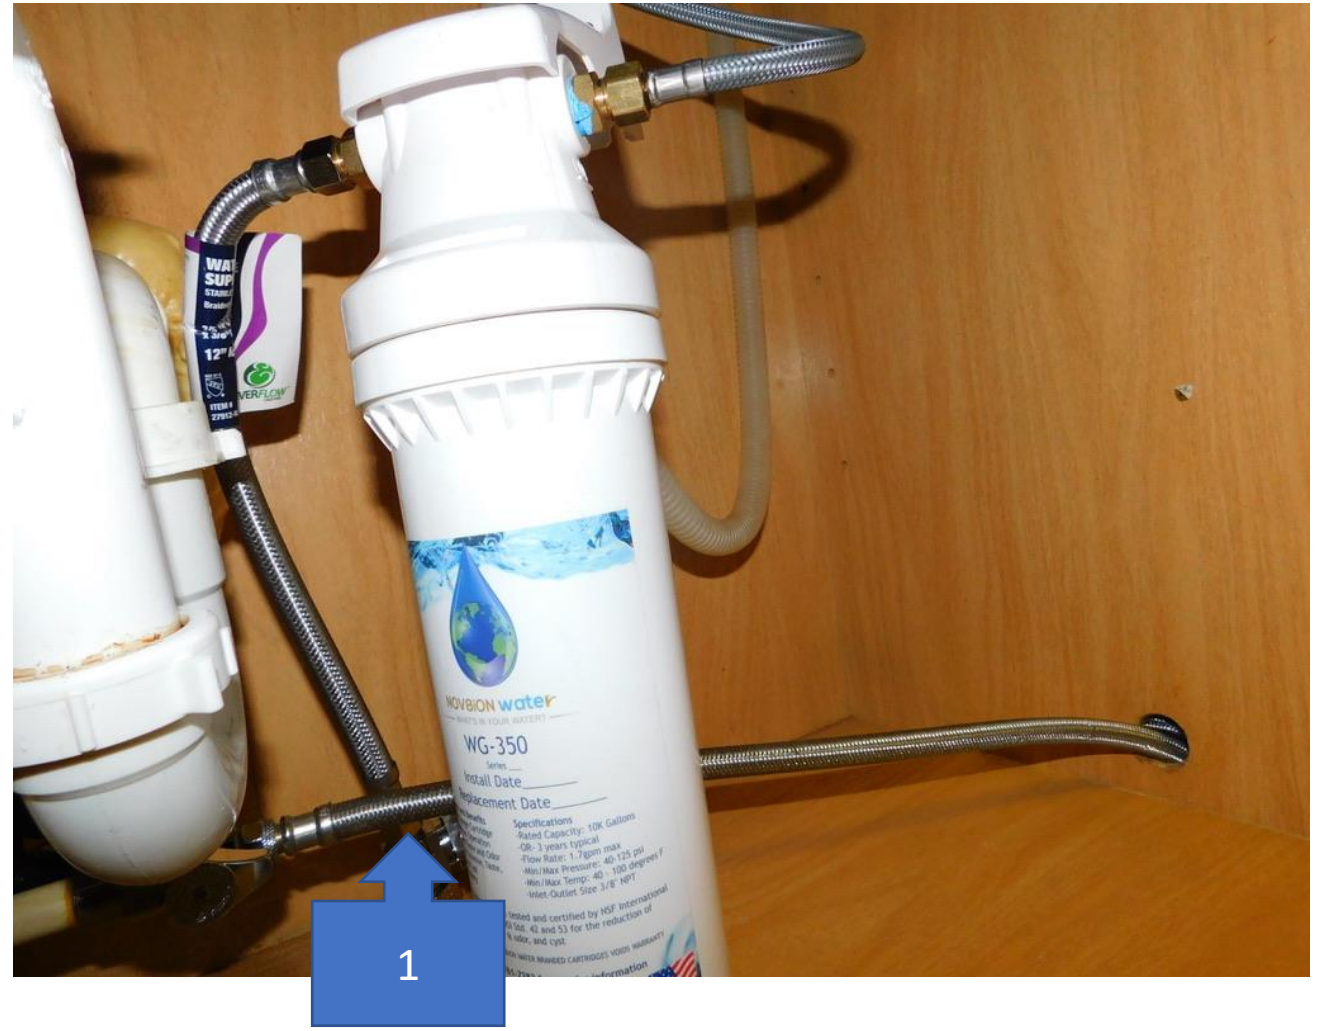

Figure 5
**IV. Connect the opposite side of the water line, (Figure 4, #3) to of the cold water shut off valve under the counter, (Figure 5, #1)**